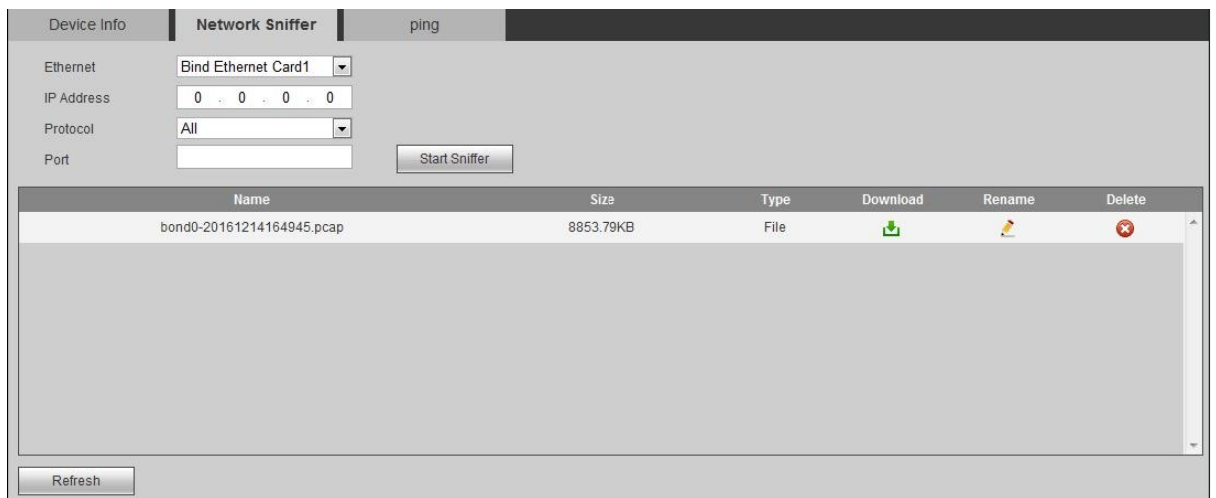

Figure 4-116
Step 3 Click “Stop Sniffer” after some time. The system displays the captured data packets, as shown in Figure 4-116.